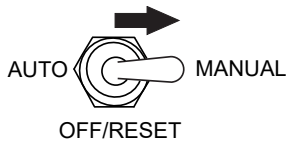

Figure 45. Auto Start/Stop Switch (Manual Position)
2. To start the engine, place the **Auto Start/Stop switch** in the **MANUAL** position (Figure 45).